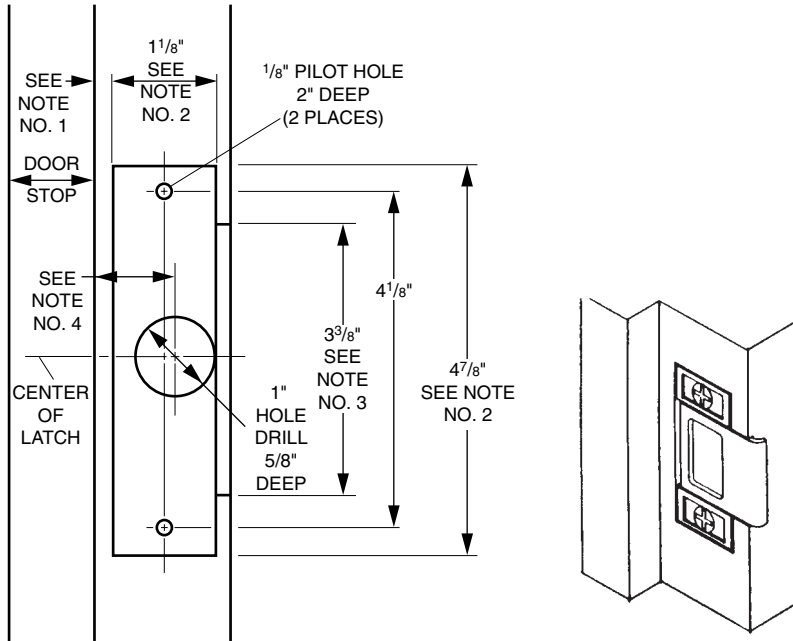

Figure 13.56 Jamb preparation and completed installation of Model 452 for a 1 $\frac{3}{4}$ -inch door. (M.A.G. Engineering and Mfg., Inc.)
1. For $1\frac{3}{4}$ -inch door, start the cutout $\frac{3}{16}$ inch away from the door stop; for $1\frac{3}{8}$ -inch door, start cutout on the edge of door stop (Fig. 13.56).